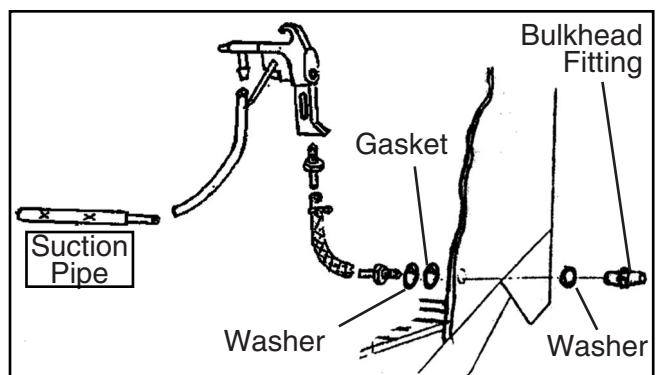

Figure 7. Blast gun assembly.
7. Install the bulkhead fitting with gasket. Attach the air supply hose and suction hose to the bulkhead fittings and suction pipe with hose clamps (Figure 7).